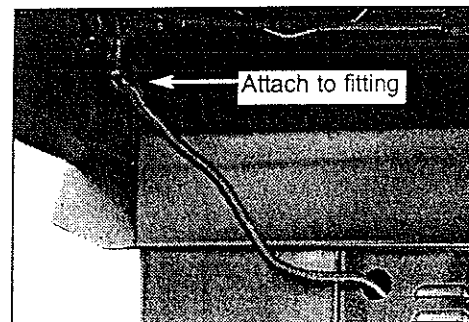

Fig. 8
5. Attach the Flex Line to the fitting on the bottom of the Side Burner and then run the flex line through the hole into the cart. (See Fig 8)